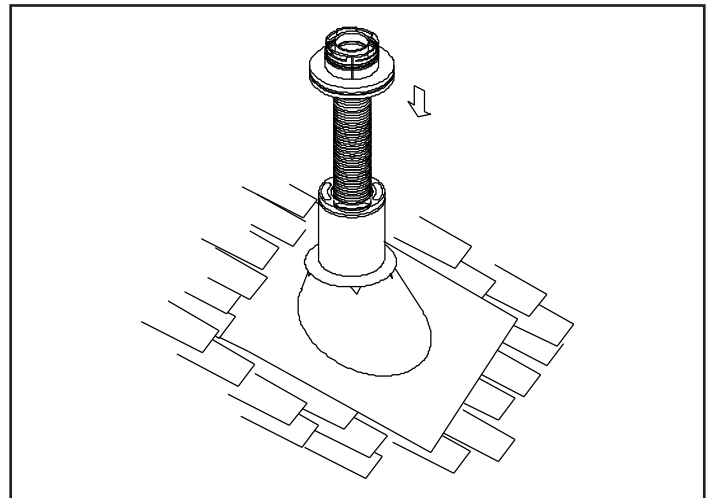

Figure 4.15
4. Pass the flex pipe down through the center of the chimney system, and center the top adaptor on the top of the chimney pipe. Drill four 1/8 in. (3mm) diameter holes through the top adaptor, and into the chimney top, preferably from the side of the top adaptor. Ensure that you are drilling into the metal on the chimney. Twist lock the high wind termination cap onto the top adaptor. See Figure 4.15 and Figure 4.16.